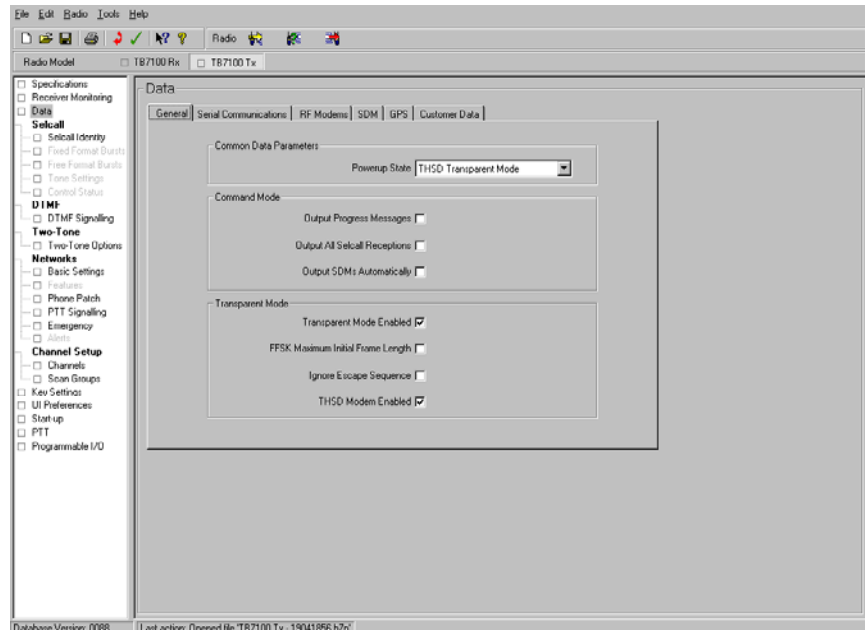

Figure 18
- Under Data>General Only set the following parameters as shown in **figure 18**: